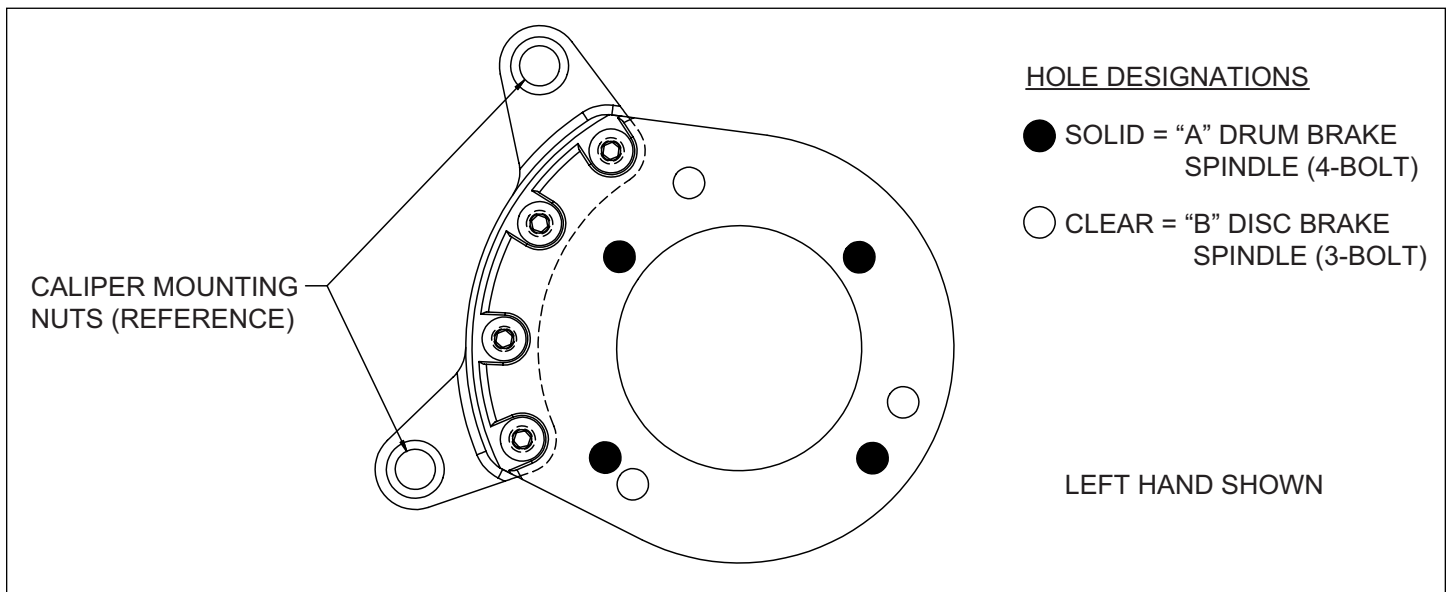
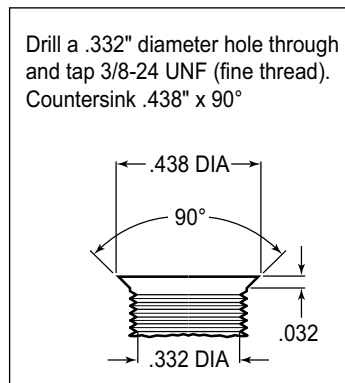

Figure 1. Wilwood Caliper Mounting Bracket
Figure 2. Drill and Tap Detail
This kit has been designed for use with both the disc brake or the drum brake configuration of vehicle. The only difference is in how the Wilwood caliper mounting bracket is installed. The same bracket is used for both configurations; the disc brake version utilizes three mounting holes while the drum brake application uses four mounting holes (see Figure 1). For your convenience we have supplied bolt kits for both applications (see parts list and Figure 4 as necessary). Use the bolt kit that is applicable to your vehicle and disregard the other one.
**NOTE:** This modification should be performed by a qualified machinist and completed before assembly of the Wilwood disc brake kit begins. Using the caliper mounting bracket as a template (refer to Figure 1 as necessary), locate and verify the three original holes on the spindle that need to be modified. Drill a .332" diameter hole through all three holes, then tap 3/8-24 UNF (fine thread). Countersink the holes to .438" diameter x 90°, as shown in Figure 2.
**NOTE:** This kit uses the same mounting bracket (1) for both the drum and disc brake spindles. The drum version, Photo 1, uses four mounting bolts (designated "A"), while the disc version, Photo 2, uses three (designated "B"). Refer to Figures 1 and 4 for the basic installation position of the bracket and the "A" and "B" reference designations (not physically marked on the brackets).